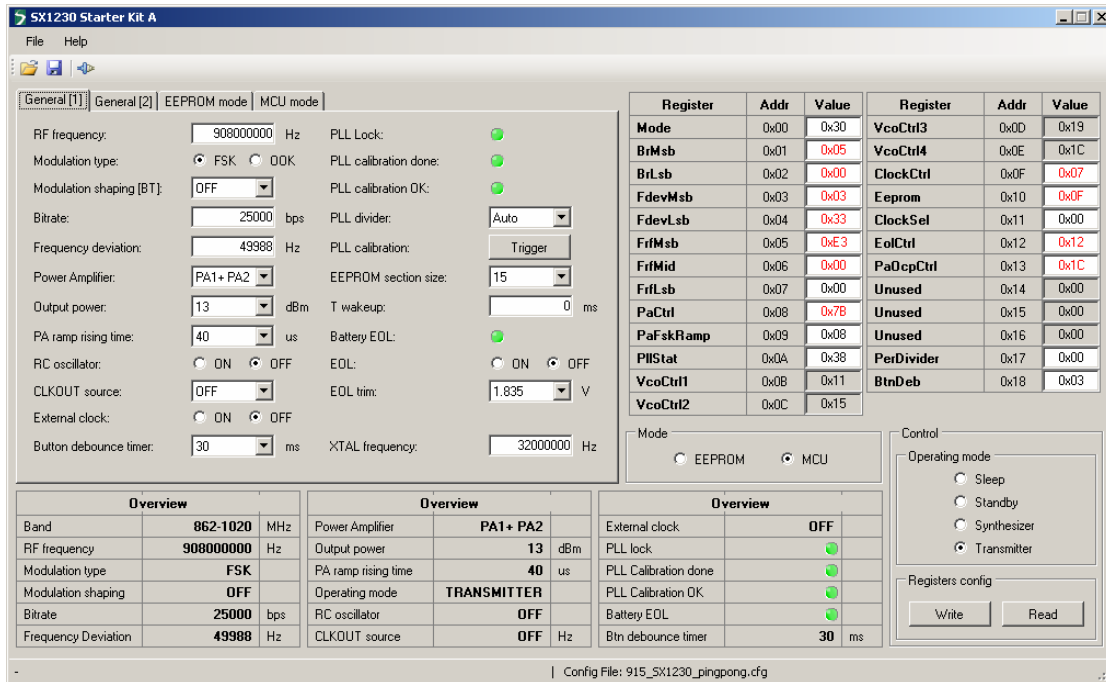

Figure 10. The New SX1230 Configuration: Ready to be Written
- The display will then appear as shown in Figure 10. These are the link parameters which match those which will be programmed to the SX1212SKA.